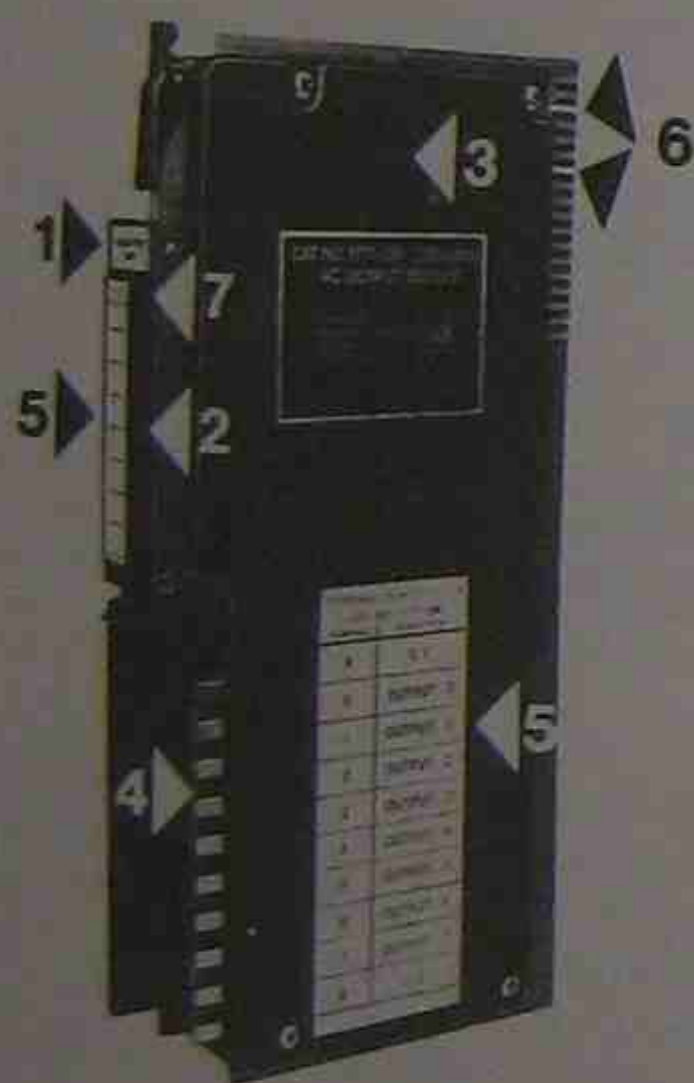
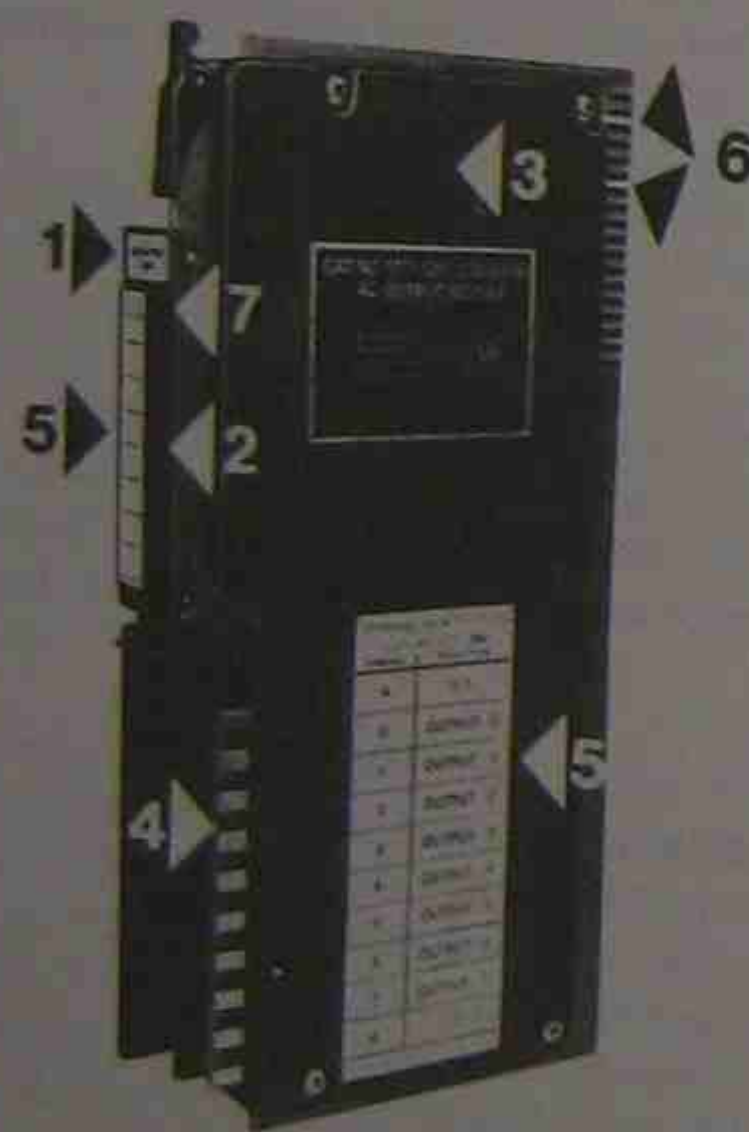
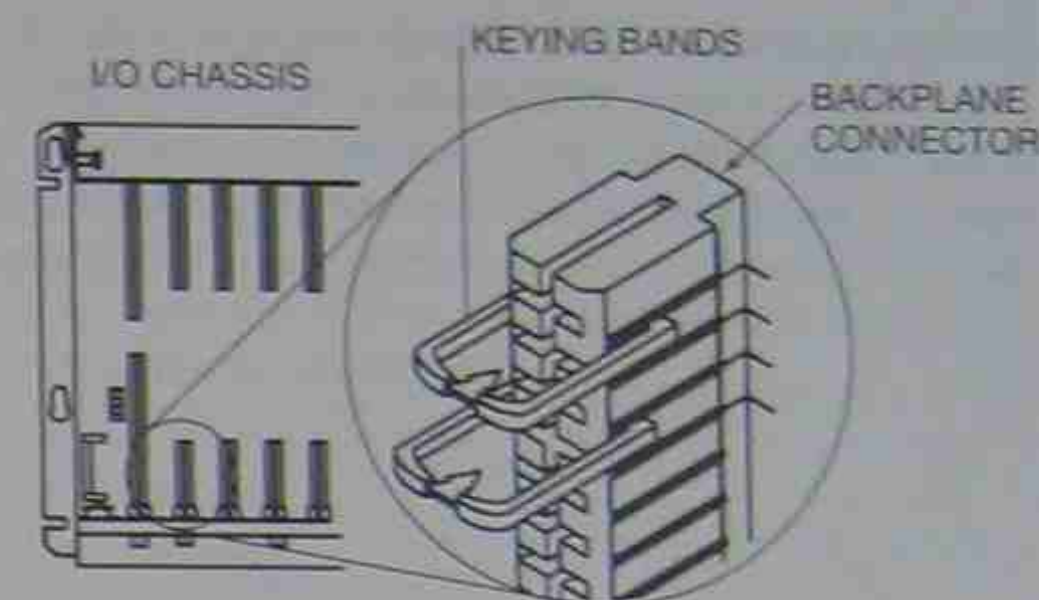

Figure 2-19 Notched AC Output Module
Figure 2-19 Notched AC Output Module
Figure 2-21 Connector Keying Pin
Figure 2-19 shows an Allen-Bradley 240 V AC output module. This AC output module looks just like the AC or DC input module discussed earlier (Figure 2-8). This is not only true for Allen-Bradley modules, but also for other manufacturer's products as well. In all instances, the manufacturer's label and/or color codes the fronts of all modules to distinguish between the different types (AC input, DC output, TTL, Analog, and so on). Most manufacturers have designed each module so it can be **keyed**. In Figure 2-19, item 6, the module has been notched in two places. Installing keying bands on the Allen-Bradley I/O rack backplane connector (Figure 2-20) where a specific module is to be installed prevents any module, other than the type for which the connector is keyed, from being installed in that connector or slot. Figure 2-21 shows a close-up view of what the keying band looks like and how it is installed. Each type of module has a unique combination of notches. This feature prevents inadvertent or accidental replacement of the wrong type of module, say an input module, into a slot that is already wired to output devices. To prevent damage and downtime, it is important that the keying system be used.